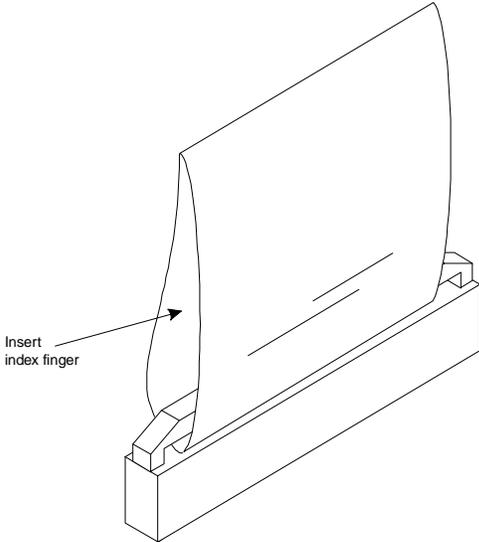

Figure 7-27. Signal Processor/Companion Connector Loop
4. Insert your index finger into the plastic loop (Figure 7-27) and hold the card steady with your free hand.
1. Insert a finger into the flexible plastic loop (Figure 7-27).